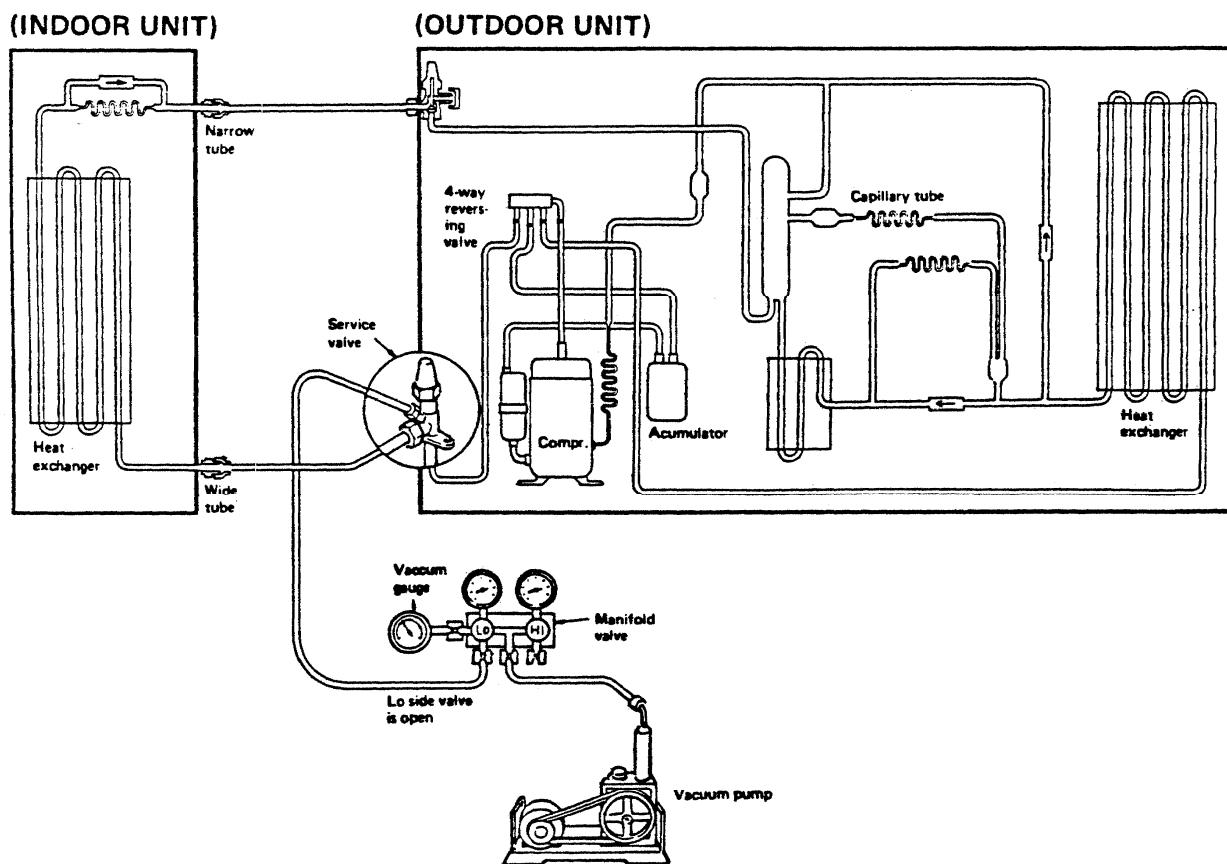

Fig. 32
- b) If no gas leakage is confirmed, Connect both vacuum pump and vacuum gauge to service valve through 1/4" port with a flare nut. Fig. 32